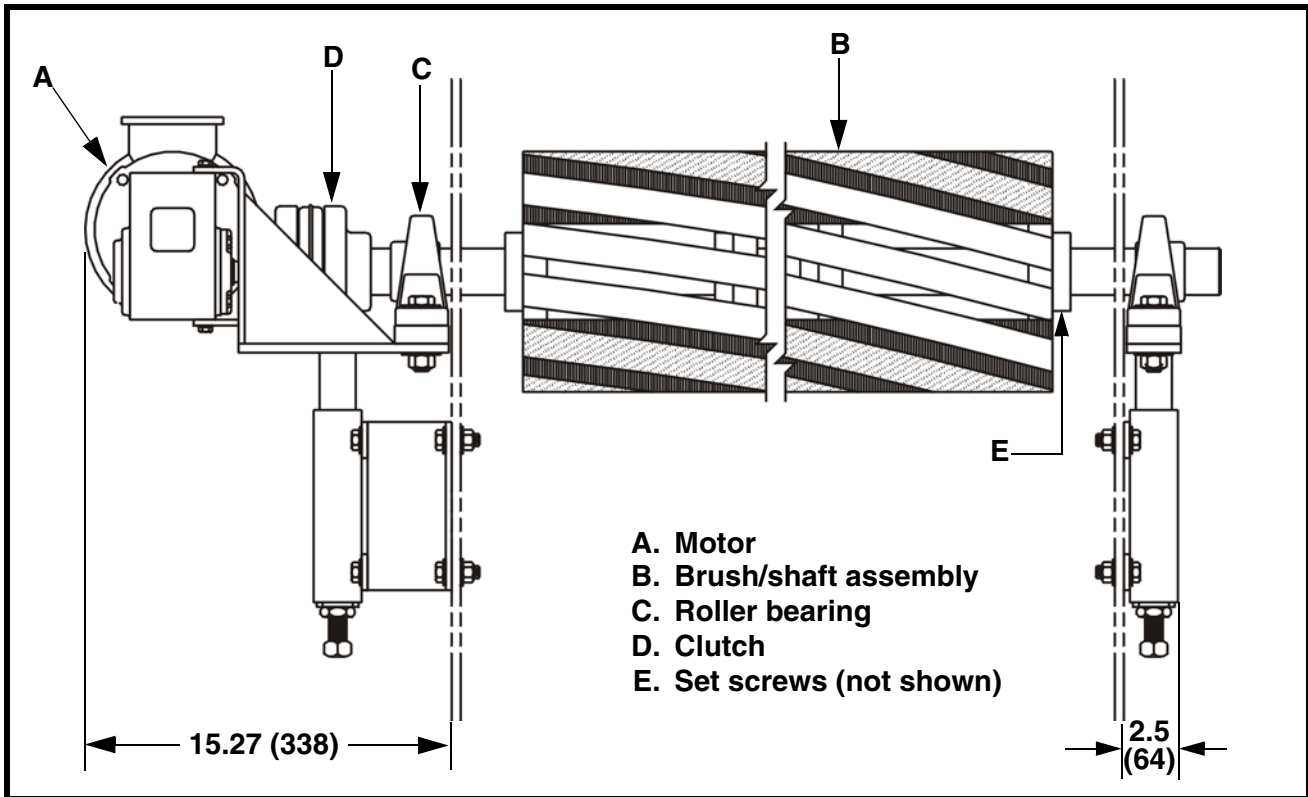

Figure 4. Installing Martin® Rotary Strip Brush Cleaner
2. Install motor (A, Figure 4) onto motor mount on far side chute wall.
3. Slide shaft and brush (B) through mount on operator side chute wall and roller bearing (C) on far side chute wall.
4. Install clutch (D) onto motor shaft and brush shaft.
- a. Loosen two set screws (E) at each end of brush assembly.
- (1) Turn take-up rod weldment to lower brush assembly away from belt.
- (2) Remove operator side bearing.
- (3) Loosen clutch (D, Figure 4). Slide shaft and brush (B) out of far side roller bearing (C) and remove from chute.
- (4) Loosen clamp screws on hubs between bristle sets just enough to pull bristle sets off shaft.
- (5) Install new bristle sets one at a time, tightening clamp screws just enough to hold bristle sets in place. After all bristle sets are in place, tighten clamp screws securely so wedges on clamps match height of strip backing on bristles.
- (6) Insert shaft and brush back into far side bearing and ensure shaft engages with clutch.
- (7) Make sure brush is centered under belt. Replace operator side roller bearing.
- (8) Tension brush against belt.